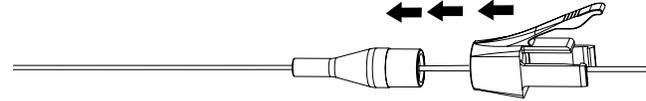

Figure 4-23
**4.6-1** Slide the 900  $\mu\text{m}$  boot (small end first), then the trigger, down the tubing until it is out of the way (Figure 4-23).